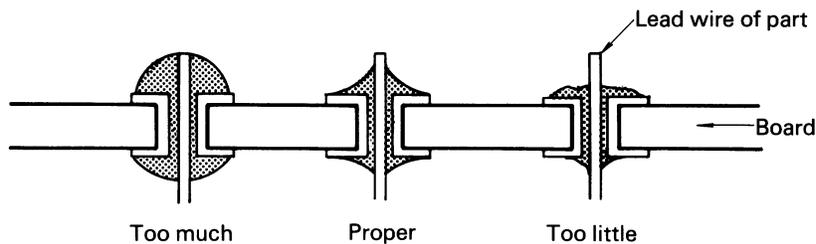

Fig. 6-1
- (a) Solder each lead wire as shown in the center of Fig. 6-1. (The slope of the placed solder is 30° - 45°.)